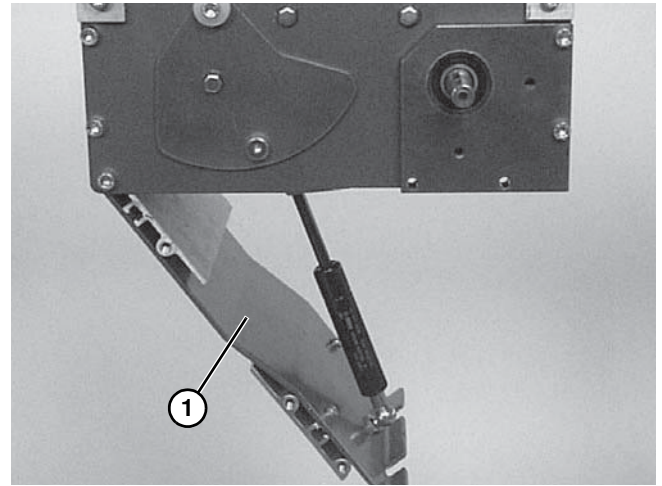

Figure 73
9. Carefully close the drive module tension door (**Figure 73, item 1**). See WARNING.